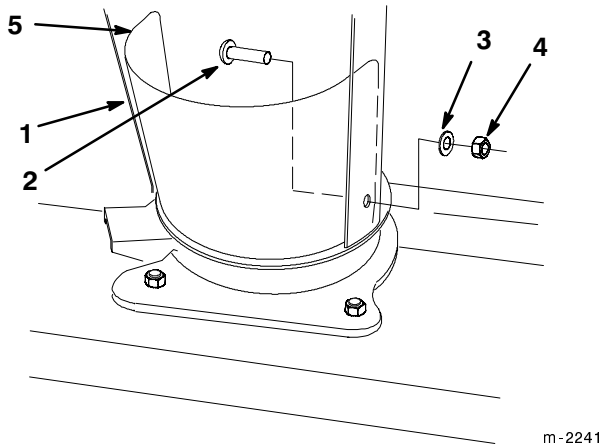

Figure 2
1. Install the discharge chute assembly and deflector shield onto the housing with three 5/16 x 3/4 in. (19 mm) carriage bolts (heads to the inside), three 5/16 in. (8 mm) washers, and three 5/16 in. locknuts (Fig. 2).
2. Loosen the bolts on the rotator assembly (Fig. 2) and adjust it so that the worm gear teeth mesh fully with the ring gear on the discharge chute and the chute turns freely. Tighten the locknuts securely.